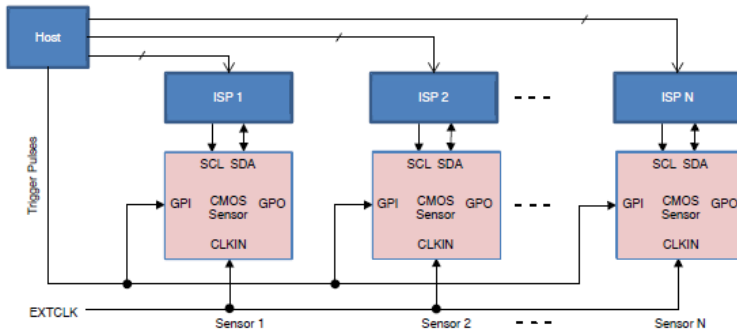

Figure 20. Trigger Mode Block Diagram
The sensors should be wired as Figures 20. A sensor GPI is configured as the TRIGGER pin. Each sensor runs like standalone, except being configured as trigger mode. It needs external pulses to start and keep streaming. The host should transmit the pulses to the sensor TRIGGER pins. All sensors should share the same trigger pulse signal and the same EXTCLK.
6. Removed “Figure 20, Trigger Mode Block Diagram”